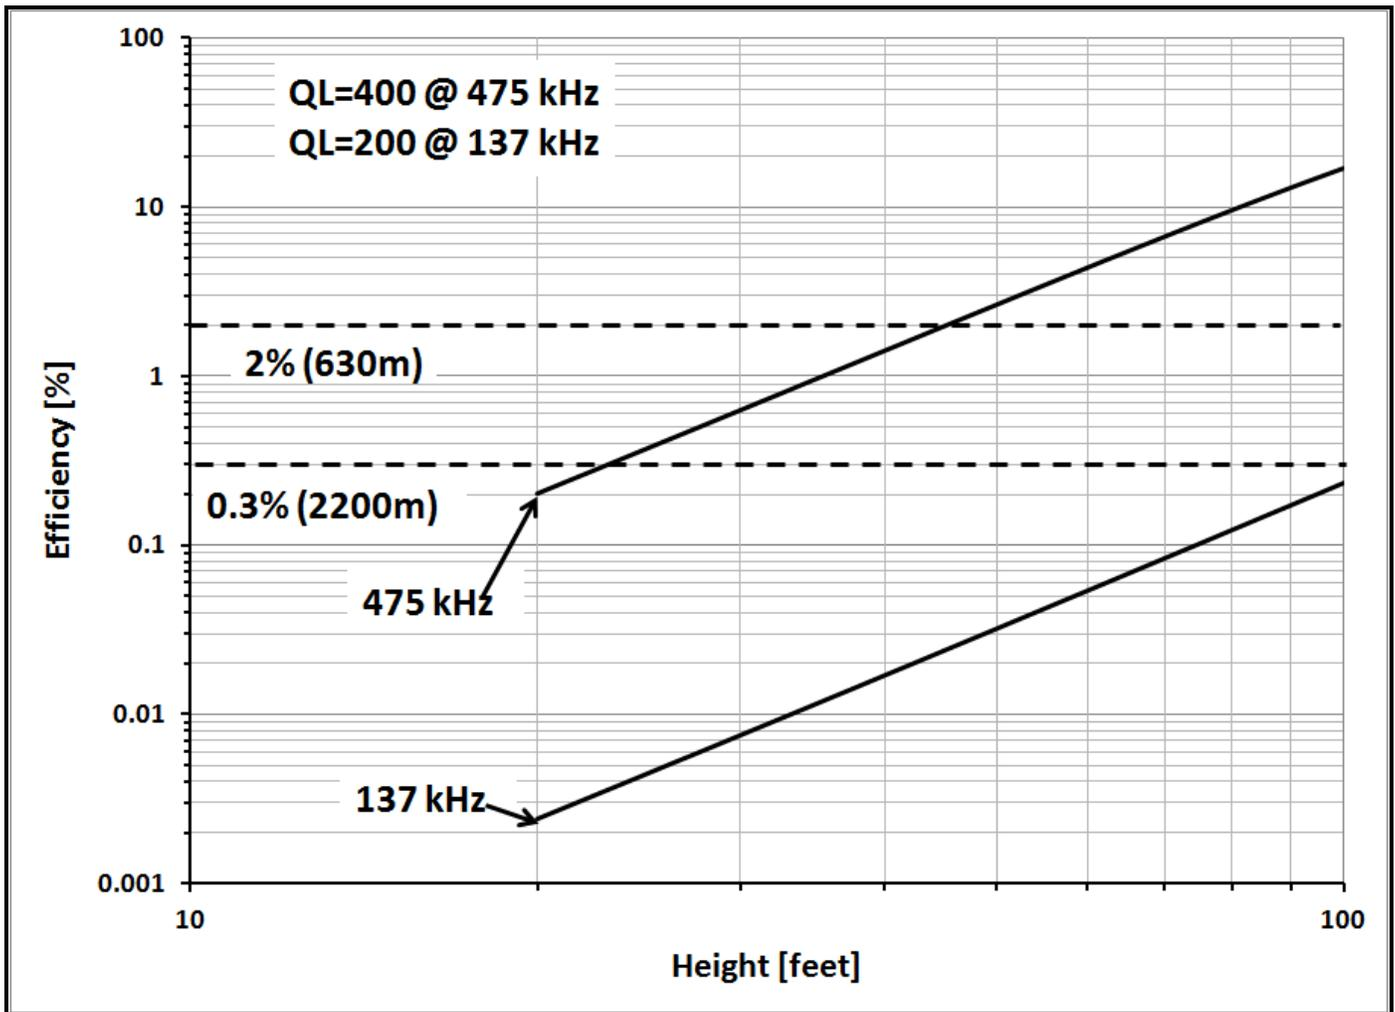
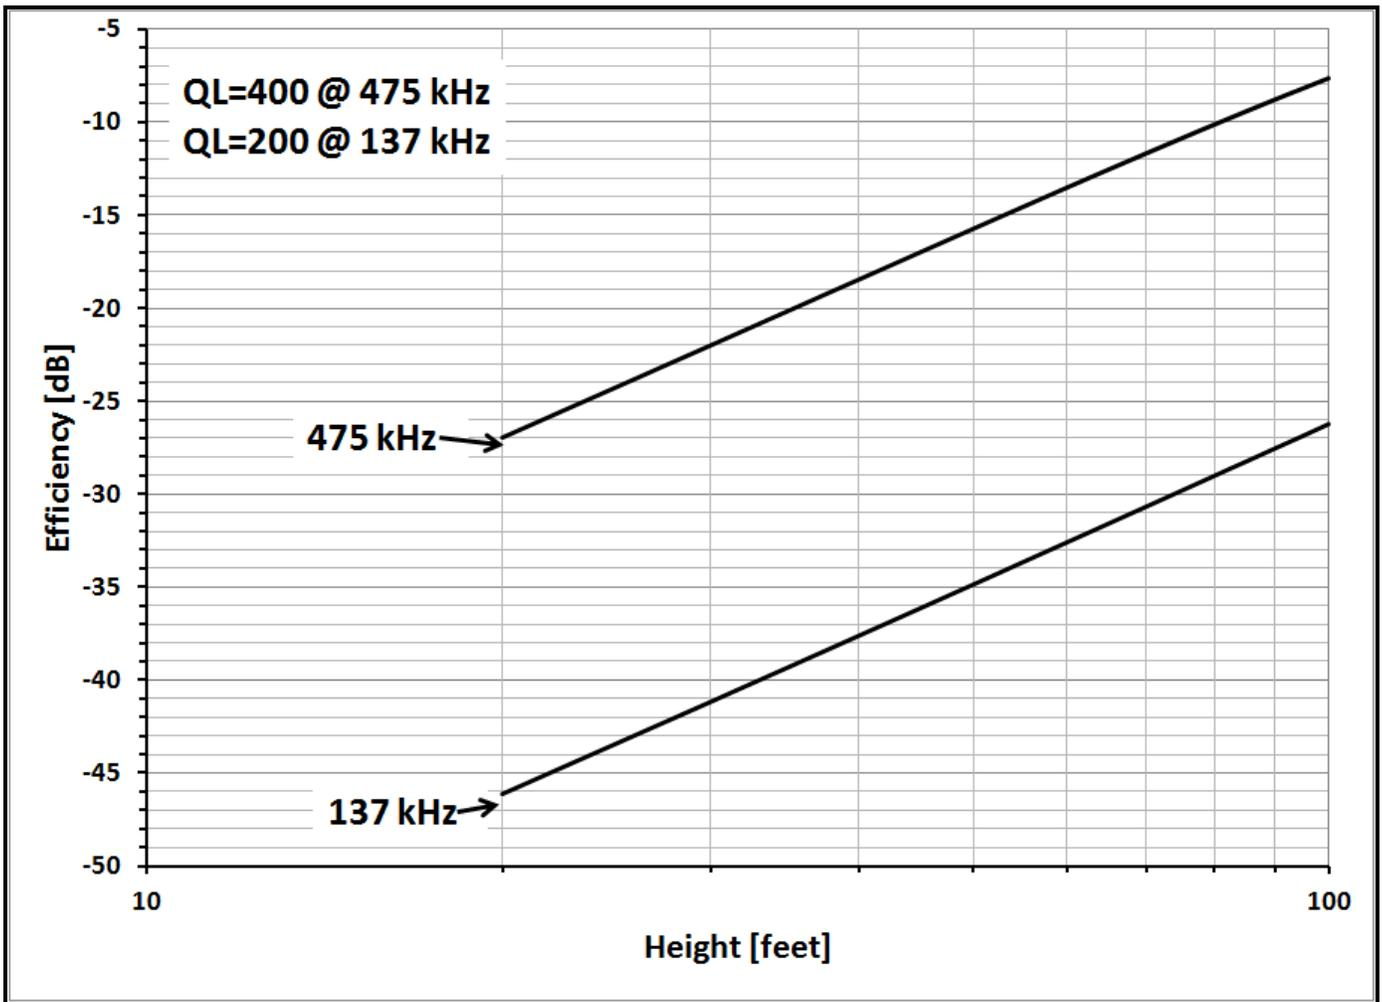

Figure 2.12 -Efficiency using a QL=200 and 400 loading inductors.
Figure 2.13 - Efficiency stated in  $\text{dB} = 10 \text{ LOG}(\text{efficiency})$
We can get a good feeling for the effect the loading inductor losses (RL) on efficiency by assuming  $R_i = RL+R_r$  (i.e. ignoring other losses) and calculate the efficiency as shown in figures 2.12 and 2.13. QL=200 at 137 kHz and 400 at 475 kHz are assumed. Figure 2.12 is truly bad news. For example with  $H=20'$ , at 137 kHz  $\eta=0.0024\%$  and at 475 kHz  $\eta=0.20\%$  and that doesn't consider any other losses! Increasing H to 100' makes a great difference. At 137 kHz  $\eta=0.24\%$ , still very low but a factor of 100 improvement. With 100W output from the transmitter, to radiate the allowed maximum powers the antenna will have to have  $\eta > 2\%$  at 475 kHz and  $\eta > 0.33\%$  at 137 kHz. There are horizontal dashed lines corresponding to these values in figure 2.12. We can see from the graph that a minimum height of 45' on 630m and >100' on 2200m will be needed. Note, the efficiency scale is logarithmic, a small change in height means a large change in efficiency! As if we're not already depressed enough given the efficiencies shown, we can convert the y-axis in figure 2.12 to dB to better illustrate the effect of losses on our signals as shown in figure 2.13. The signal attenuation for this range of heights is particularly severe on 2200m.